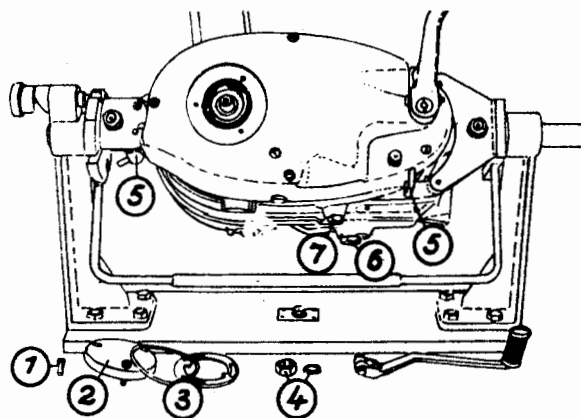

Fig. 1
- (1) Press the gear-shift arm in the direction of the gear-shift shaft
- (2) Draw out gear-shift shaft with gear-shift member, in this operation
- (3) do not damage insulating washer for idling switch
- (4) Remove washer and
- (5) remove oil guide disk (rubber).
- Then remove the gear detent screw (7 in Fig. 1), draw out the gear-shift cylinder and beat the gear shafts out of their seats.